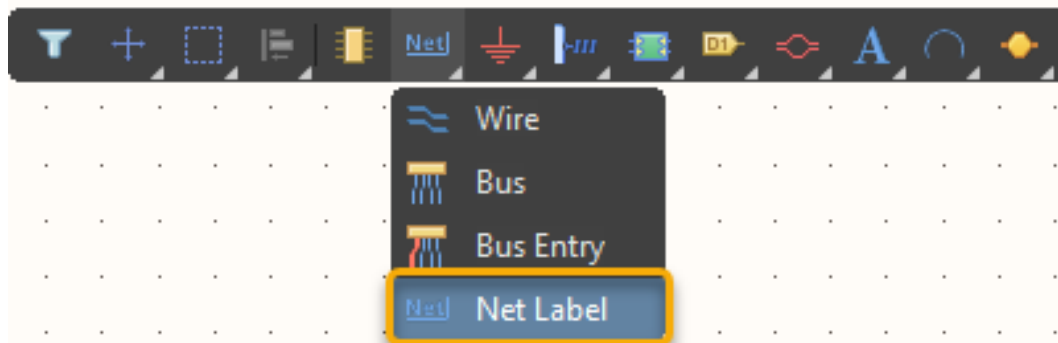

Figure 1. Place Net Label
12. In the *Active Bar*, right-click on the **Place Wire** button and select **Net Label**, as shown in Figure 1.